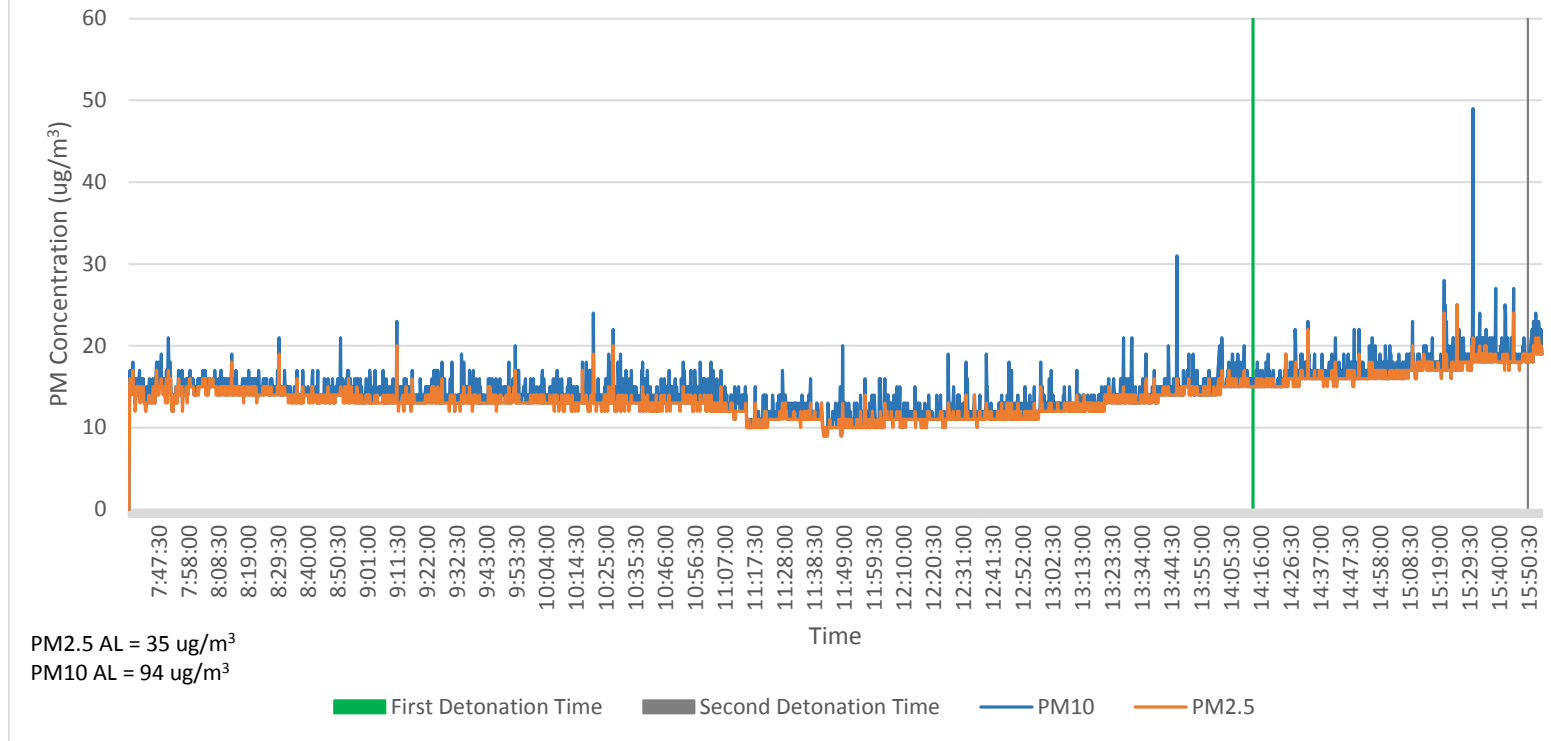

Figure 3-7 PM2.5 and PM10 on 8/10/17 at the Demolition Area Monitoring Point
- Figure 3-7. PM2.5 and PM10 on 8/10/17 at the Demolition Area Monitoring Point